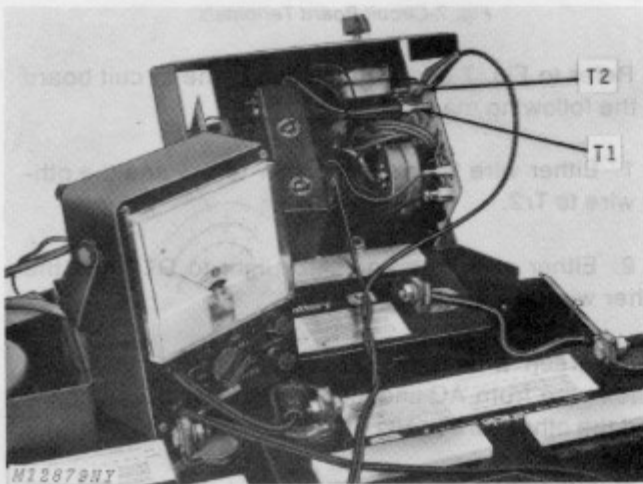

Fig. 4-Testing Circuit Board with AC Voltmeter
5. Use an AC voltmeter and probe two points on the circuit board, T1 and T2, Figs. 4 and 7. Wires from the charge control timer motor are connected at these two points. With less than 38-volts DC across the battery pack, no AC voltage should be present at T1 and T2.